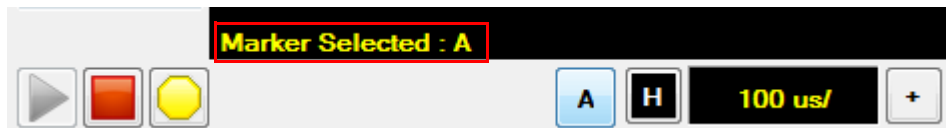

Figure 2-78 Marker indicator on the graphical interface
- 2 When selecting or toggling between markers, the marker indicator is displayed on the graphical interface as shown in Figure 2-78.